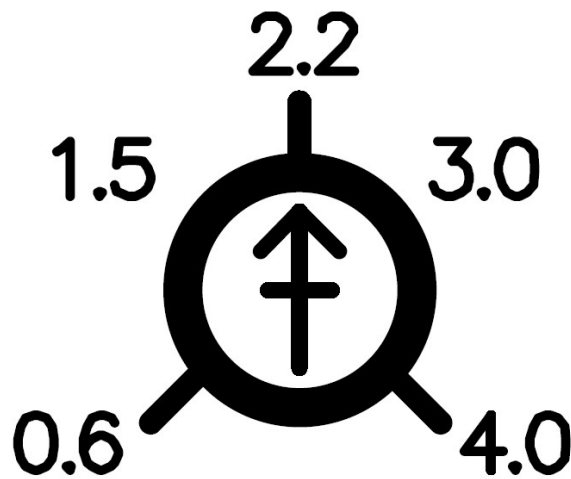

Figure2-2. Position of current
- E) These four blue potentiometer manage XYZA 4axis stepper motors' current. Turn clockwise will increase the current, and turn counter-clockwise will decrease the current. Please adjust them according to the motors' need. The position of current see as Figure 2-2.